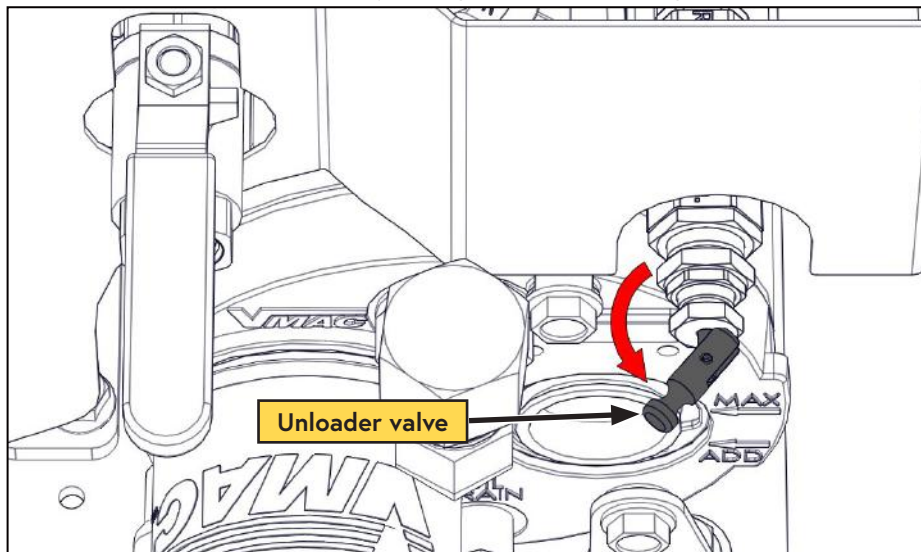

Figure 14 — Unloader valve
- 4) Actuate the unloader valve by pulling out the handle (Figure 14).